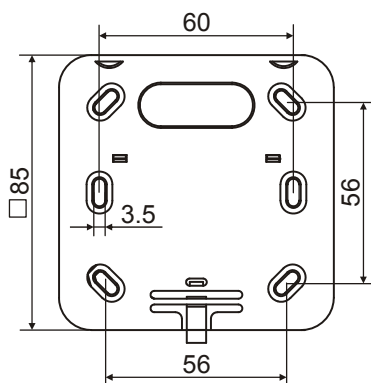

Fig. 2
2. Mount the base plate (Fig. 2) on a wall or recess-mounted socket using 2 ... 4 screws with max. diameter 3 mm.